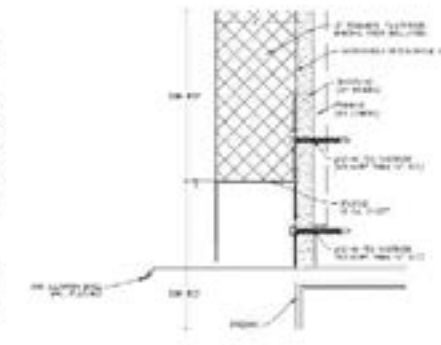

Figure 3 – Flashing Profile
8. **FLASHING:** (Figure 3) Fasten 0.040 in. thick aluminum base wall flashing with a nominal width of 10-1/2 in., and containing a 5/8 in. drip edge to the exterior side of the window openings. The width of the flashing must be adjusted as required to meet the overall wall thicknesses.